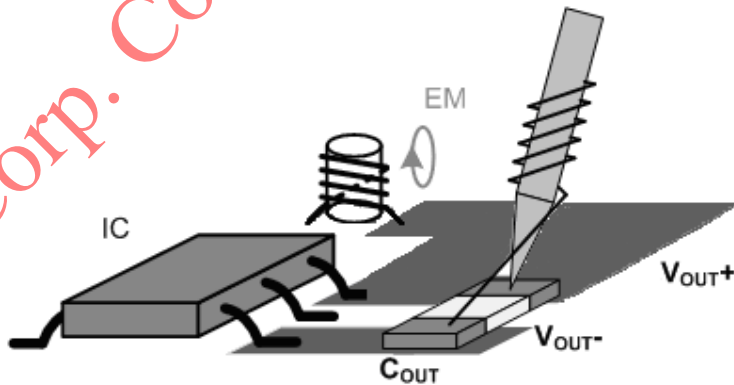

Figure.5 Recommended way to measure the output voltage ripple
A proper output ripple measurement should be done according to Figure 5 setup. Output voltage ripple should be measured across the output ceramic cap near the IC.
1. Remove the ground clip and head of the probe. Wind thin wires around the ground ring of the probe. Solder the end of the ground ring wire to the negative node of the C4. Touch the probe tip to the positive node of the C4. Refer to Figure.5.
3. Change the probing direction to decouple the electromagnetic noise generated from the nearby inductor (Refer to Figure.5).